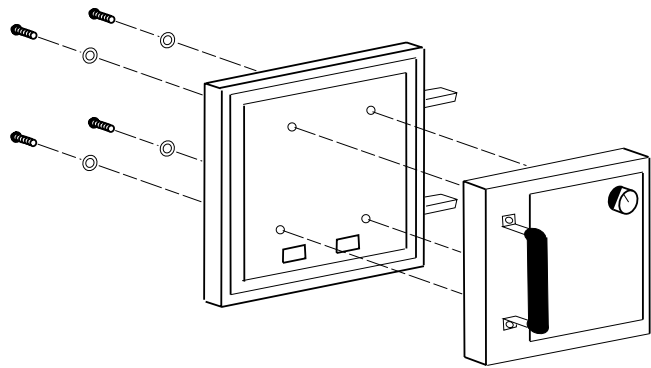

Fig. 8
2. Assemble the feed door pull handle as shown in Figure 8. Install thermostat assembly and cover (complete with handle) as illustrated in Figure 8.
3. Align thermostat control knob with flat on thermostat control shaft and press onto shaft. (See Fig. 8)